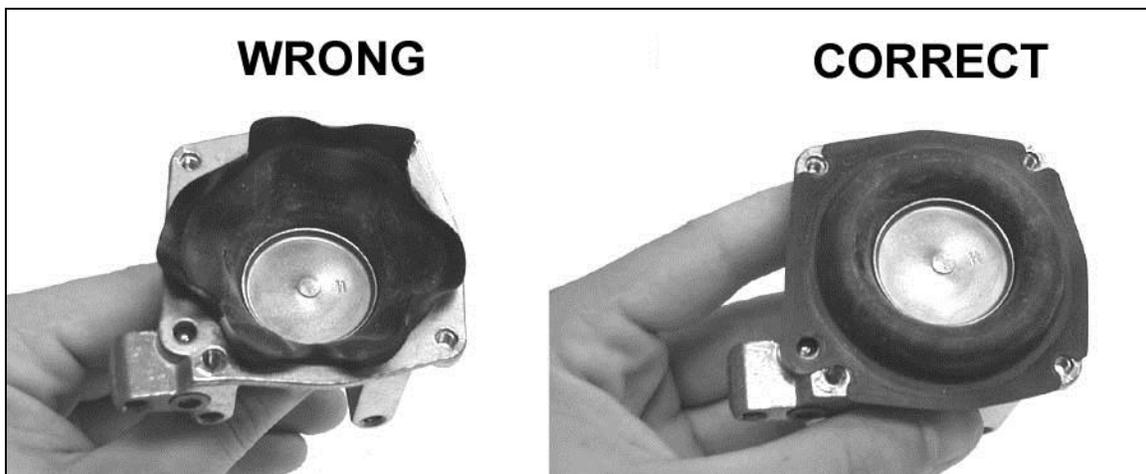

Figure 18
**TIP:** To make reassembling the diaphragm easier, extend the diaphragm into the housing and form the diaphragm into a “mushroom” shape (Figure 18). Then position the diaphragm over the bolt holes and vacuum port. Hold the diaphragm in that position with your fingers while inserting the spring, cover, and bolts to avoid disturbing the position of the diaphragm. A small amount of lubricant on the threads of the screws will help prevent the threads “grabbing” the diaphragm.